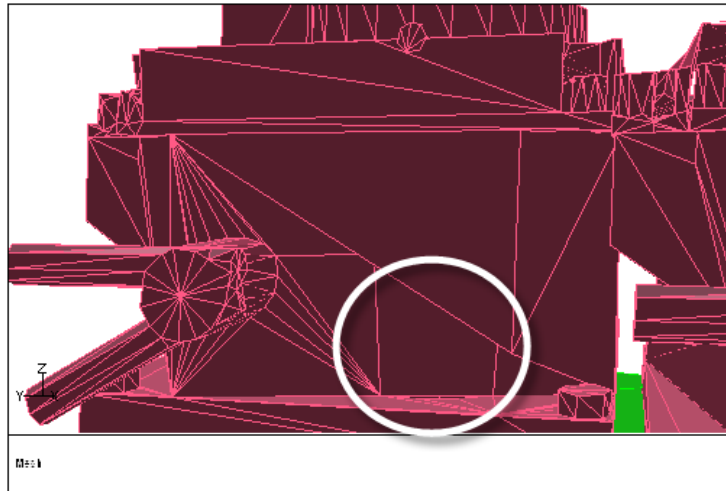

Figure 7.4: Closed Hole (Hole-1) in the f\_v8-airintake Zone
*TGrid creates a face partially covering the hole, making the hole smaller than the mesh size used in this tutorial (see Figure 7.4).*